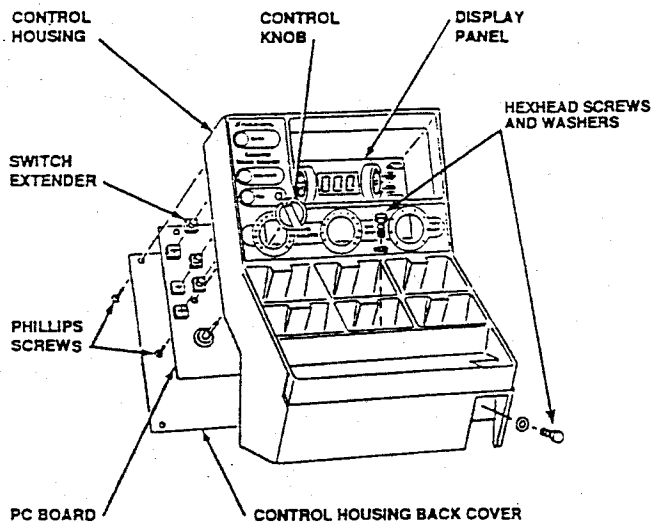

Figure 5. Removing the printed circuit board and display panel (front view).
2. Use a 1/2-inch socket to remove the two hexhead screws and washers, figure 5. One screw is located on the lower face of the weight tray, the other is located in a weight tray pocket.